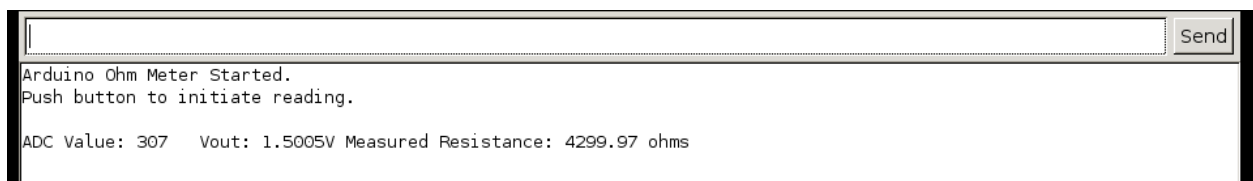

Figure 3: Arduino measurement of the resistor after calibration.
- m. The recorded measurement was 4299.97Ω . The results from the serial console are seen in Figure 3